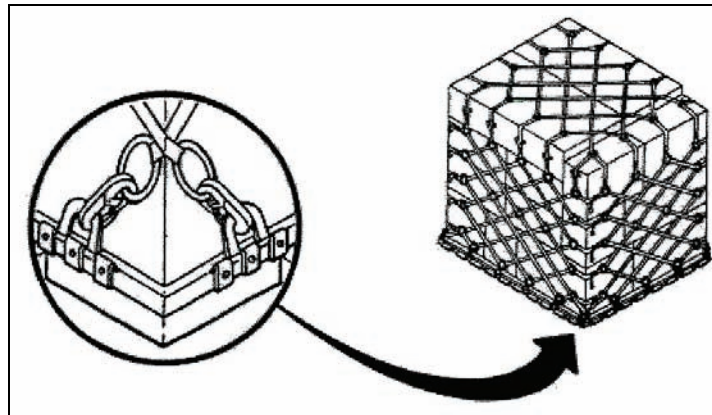

Figure 3-109. Attaching the Top Net to the Side Nets by Hooks and Rings
- e. Direct personnel to attach the top net to the side nets by hooks and rings. The two side nets are attached to the rings on the pallets and go around the side of the load and a top net goes over the top of the cargo (see Figure 3-109).